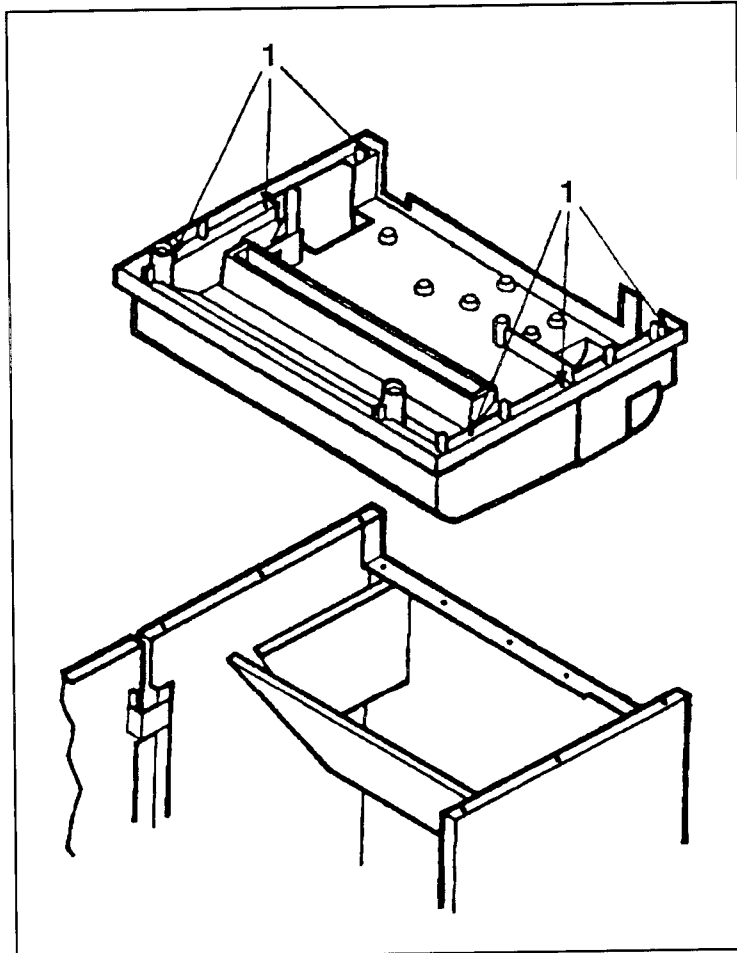

Figure 6-28. Printer Base Removal
- e. Remove the six screws from the base of the printer base (see Figure 6-28).